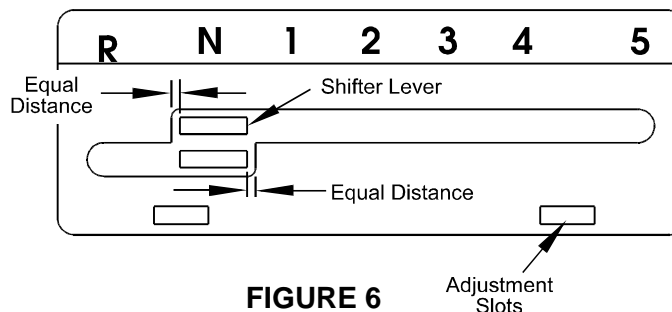

FIGURE 6
- Shift to neutral position. Lever should not contact the left edged of the upper slot. Push lever down. Lever should not contact the right edge of the bottom slot (See Figure 6). Shifter plate can be adjusted side to side to adjust position of lever relative to the slot in plate. Loosen the two bolts securing the shifter plate to the shifter lever legs. Adjust shifter plate and retighten bolts.